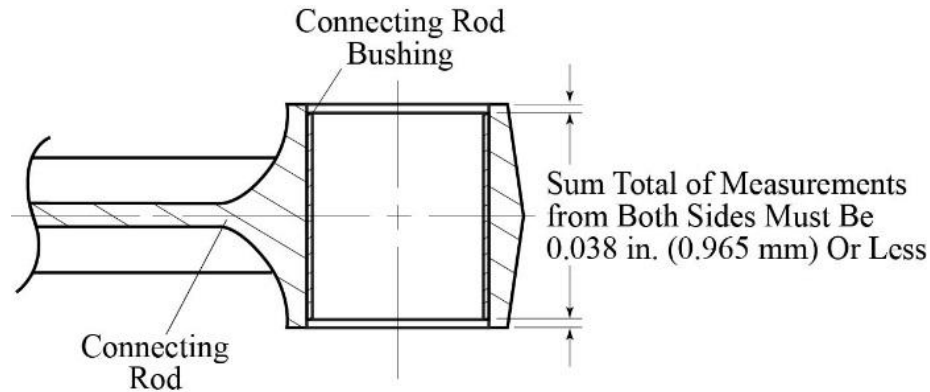

Figure 6
(5) Measure the distance from the surface of the connecting rod to the edge of the connecting rod bushing installed in the connecting rod (Figure 6) on both sides of the connecting rod.